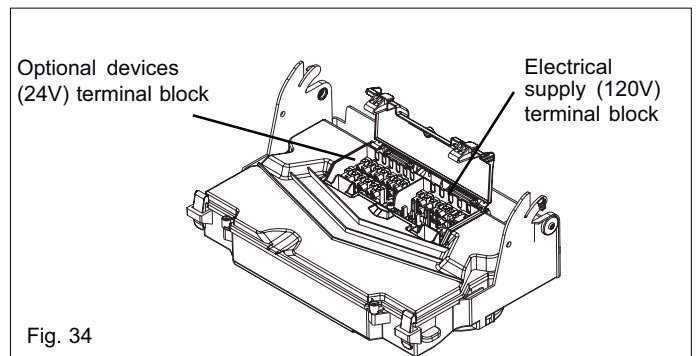

Fig. 34
The appliance terminal block is located on the rear of the control panel. Remove the casing. Gently pull the control panel forwards and down. Locate the terminal block cover (see Fig. 34).
- Open the cover of the external connection box (Fig. 34).